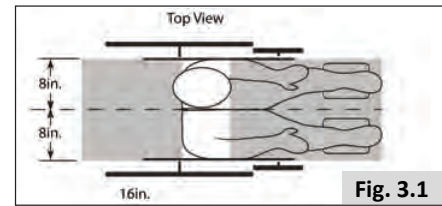

Fig. 3.1
3. The recommended clear zones for wheelchair seated occupants restrained by both pelvic and upper-torso belt(s) and only by a pelvic belt are shown in the diagrams (Fig. 3.1 and 3.2) and described below. Frontal Clear Zones (FCZ) need to be larger when upper torso belt(s) are not used. The Rear Clear Zone of 16" (40.5 cm) is measured from the rearmost point on an occupant's head. The Frontal Clear zone is measured from the front most point of an occupant's head and is 26" (66 cm) with pelvic and upper-torso belt(s) and 37" (94 cm) with only a pelvic belt. The frontal clear zone may not be achievable for wheelchair- seated drivers.